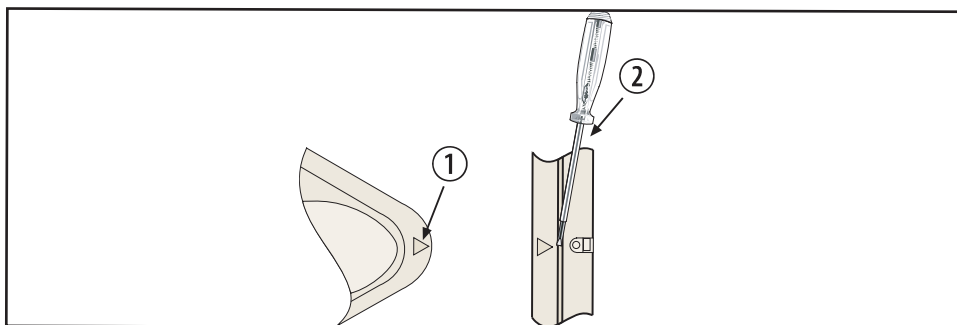

Figure 3.1: Opening Detector
- To open the detector, locate the arrow on the cover of the detector. Refer to *Figure 3.1 Opening Detector* callout (1). Turn a screwdriver in the recess between the cover and the base. Refer to *Figure 3.1 Opening Detector* callout (2). One side of the cover remains attached to the base of the detector.